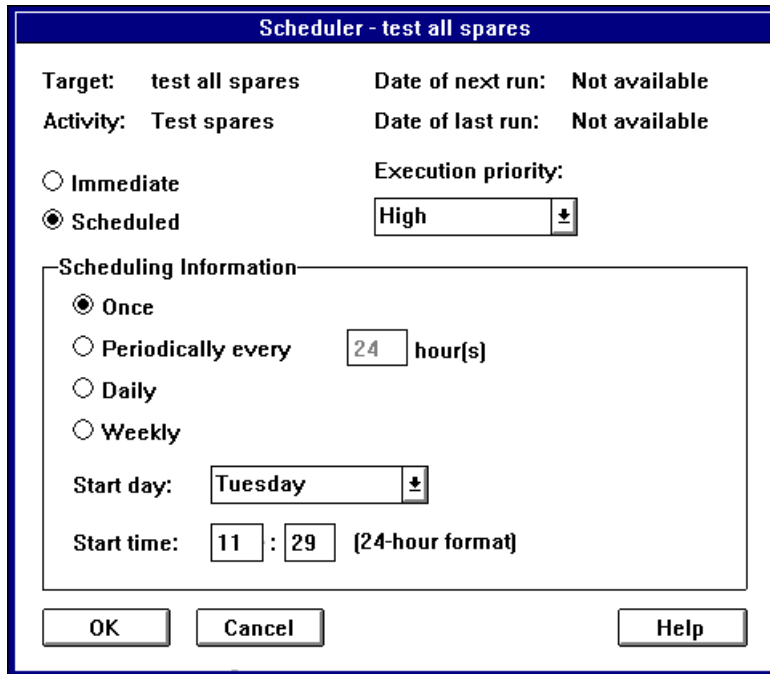

Figure 6-1. Scheduler Dialog Box
- 1 Define a new scheduled operation: Reconstruct an Array, Verify Integrity of Array, or Test All Spares. The Scheduler dialog box appears, as shown in Figure 6-1.
To view more detailed information about the activity, double-click the activity icon. The Scheduler dialog box appears, as shown in Figure 6-1. Click **Cancel** to close the dialog box.